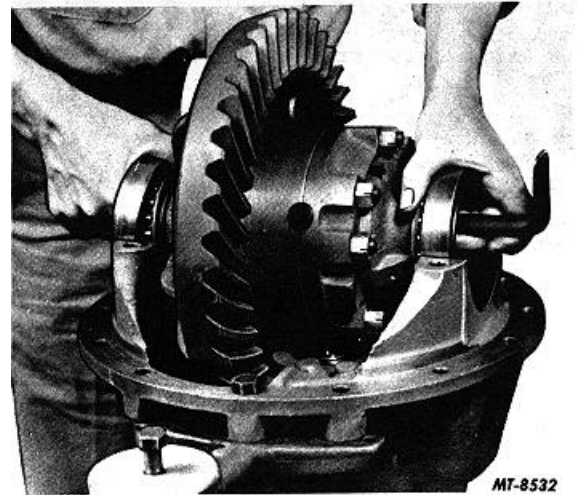

Fig. 11 Lifting out Differential and Gear Assembly
4. Tip differential away from pinion and lift assembly out of the differential housing, Fig. 11.